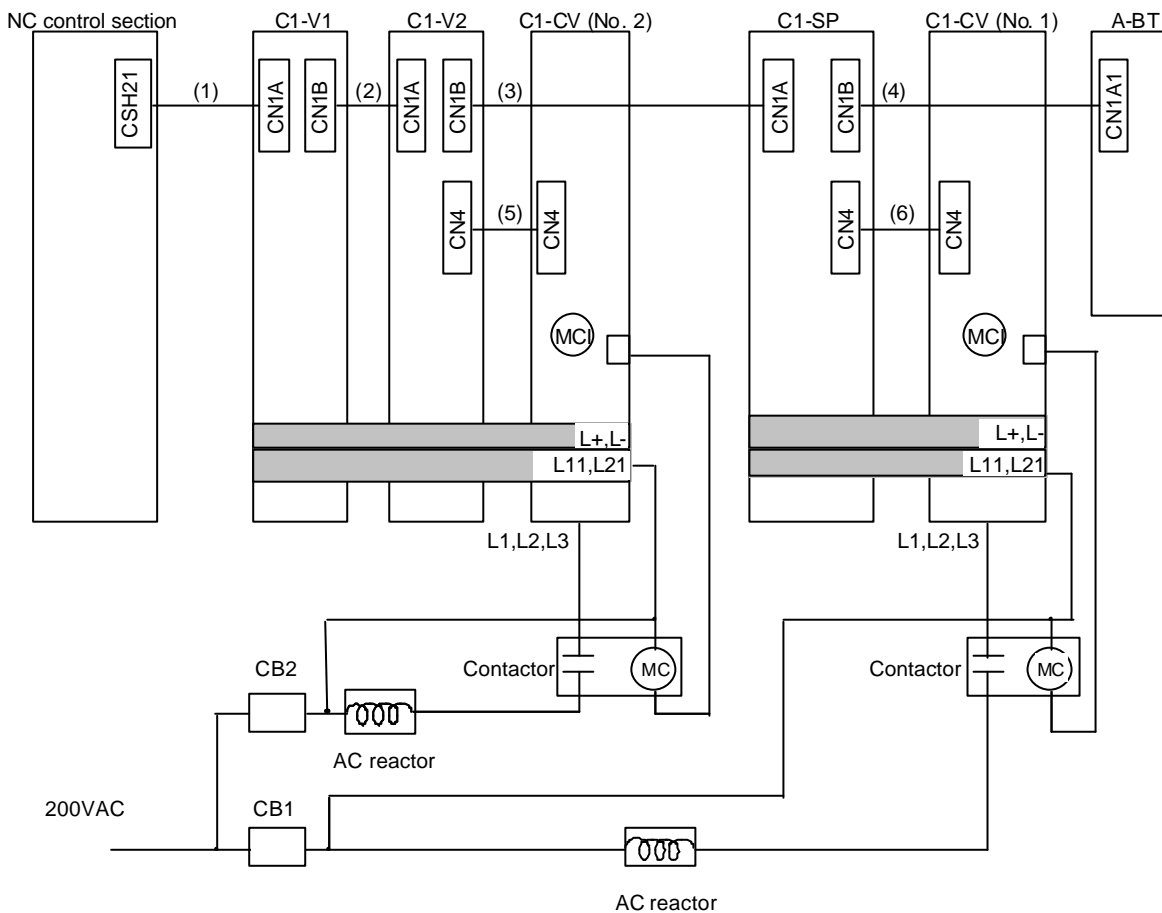

Fig. 1
Connect with the lines (1) to (4) in Fig. 1.
The (4) connection cable and battery unit will not be required so insert a terminator (A-TM) into the terminating axis CN1B (C1-SP in Fig. 1).
Connect the (6) cable to C1-CV (No. 1) and the (5) cable to C1-CV (No. 2) as shown in Fig. 1.
As shown in Fig. 1, the link bar for C1-CV (No. 1) and for C1-CV (No. 2) are connected independently. Make sure that neither of the link bars are short circuited and connected.
Always use one AC reactor per power supply unit, and install the AC reactor for the C1-CV (No. 1) and C1-CV (No. 2) separately as shown in Fig. 1.